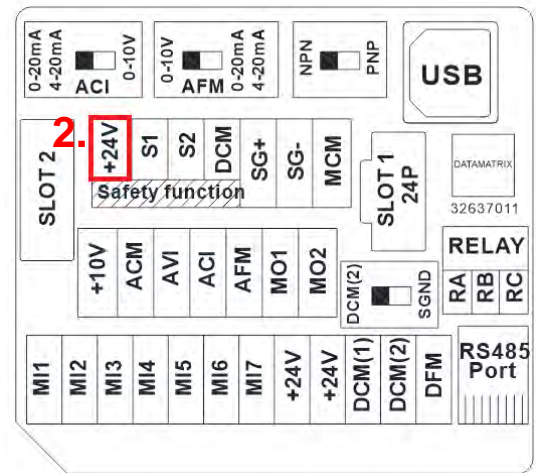

Fig. 6-7 Control Terminal Location Map
- The +24V of safety function is for STO only, as shown 2. in the Fig. 6-7, and cannot be used for other purpose.